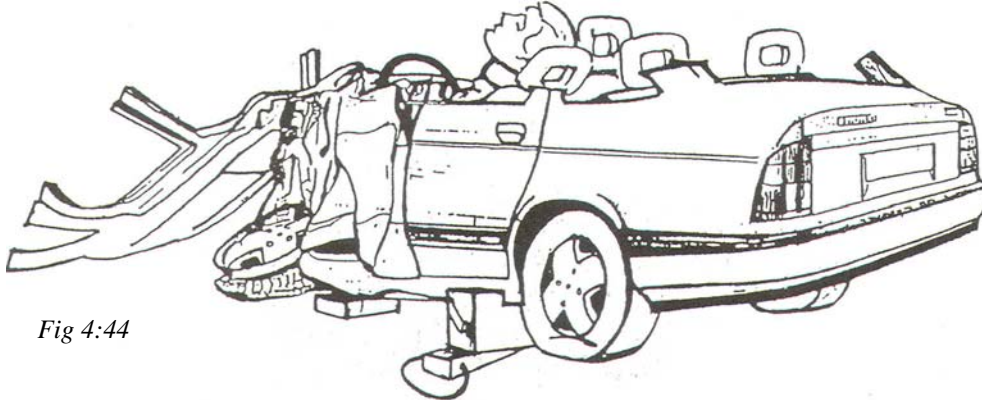

Fig 4:44
It is beneficial to make a second deeper cut into the roof side rails at point (B) Fig 4:43. Place a long pole across the roof to coincide with the cuts to the side rails and, while pulling down on the ends of the pole, fold the roof structure over the rear of the vehicle. Do not forget to remove pole before making the fold.